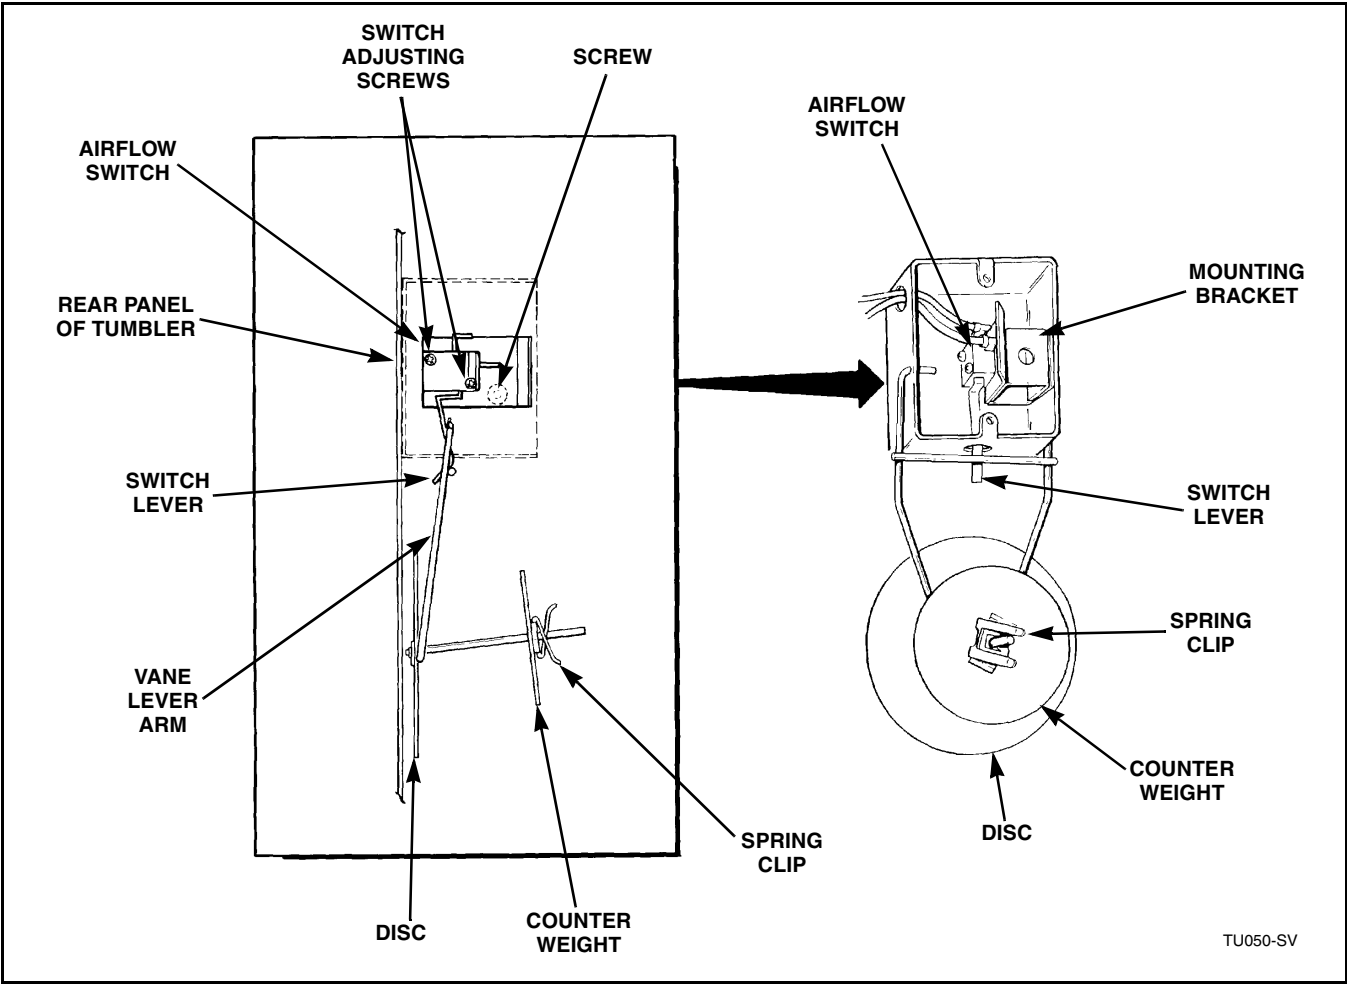

Figure 49
- If switch opens **BEFORE** lint panel is opened the proper distance as indicated in step “b,” it should be adjusted so it is **LESS** sensitive. Depress spring clip and move counterweight a small amount away from the disc. Retest by opening lint panel and continue moving counterweight away from disc until switch operates as described in step “b.” Refer to *Figure 49*.